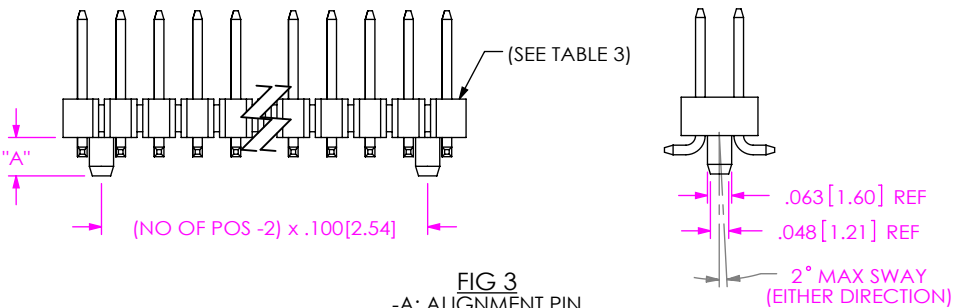

FIG 3
-A: ALIGNMENT PIN (SEE FIG 3, SHT 2)